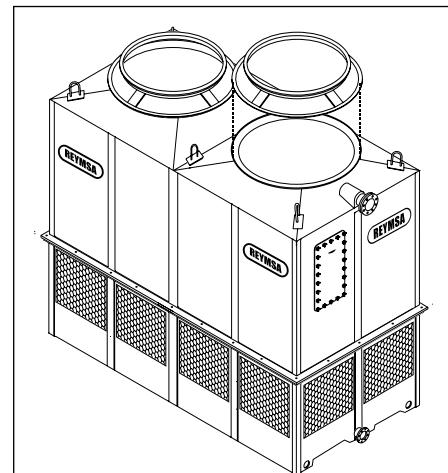

Figure A-127: Fan adaptor 2 installation on a Two Fan Tower
- B. For the Two Fan, Four Fan and Modular Towers, follow the same instructions described in previous step to install remaining Fan Adaptors (see Figure A-127 for an example). Each fan adaptor is labeled with a number on the inside of the upper edge; for a correct installation, this number must match the number on the distribution manifold of the corresponding body.